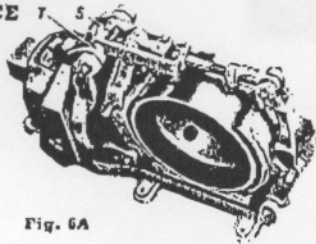

Fig. 6A
With brake released†, loosen Lockbolt (S in Fig. 6A) and rotate Eccentric Bushing (T) until clearance between wheel and each shoe is equal. Clearance at the center of shoe should be  $\frac{1}{64}$ " to  $\frac{1}{32}$ ". Tighten Lockbolt firmly.